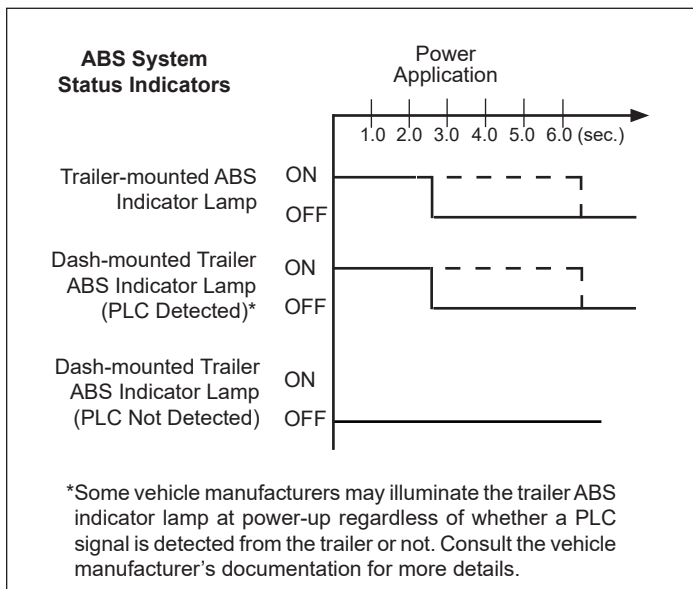

Figure 11 – Trailer ABS Lamp Power-Up Sequence
See *Figure 11*. At power-up, with no active DTC, the trailer ABS indicator lamp will illuminate for approximately two (2) to six (6) seconds as a bulb check and then turn off. If any active DTCS related to ABS are present, the trailer ABS indicator lamp will remain illuminated. If a PLC-ready towing vehicle and trailer are powered at the same time, the iTABS module will also trigger a bulb check on the dash-mounted trailer ABS indicator lamp.